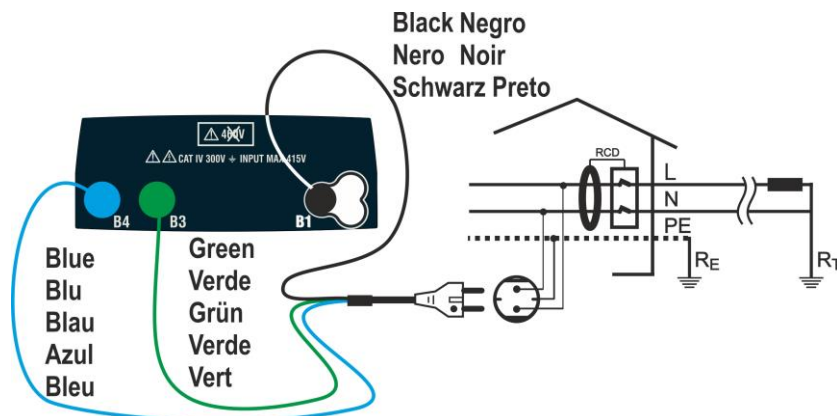
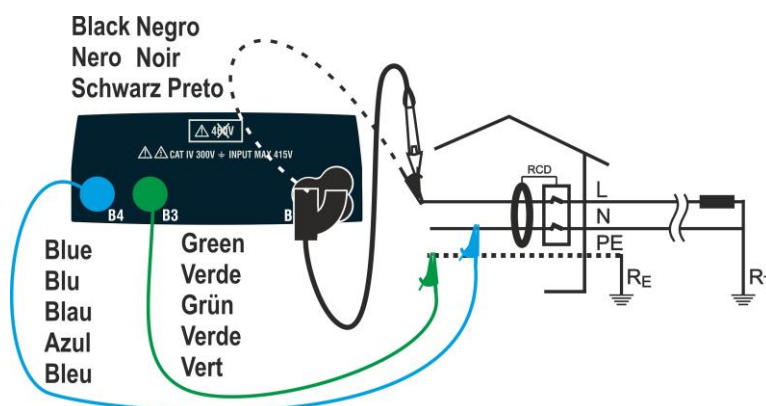
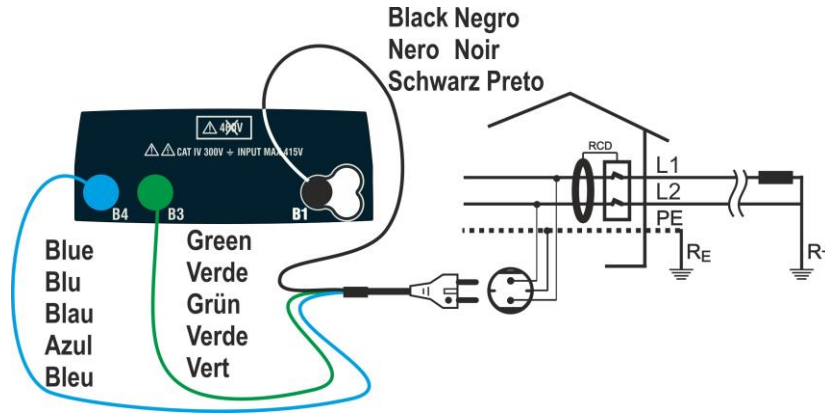
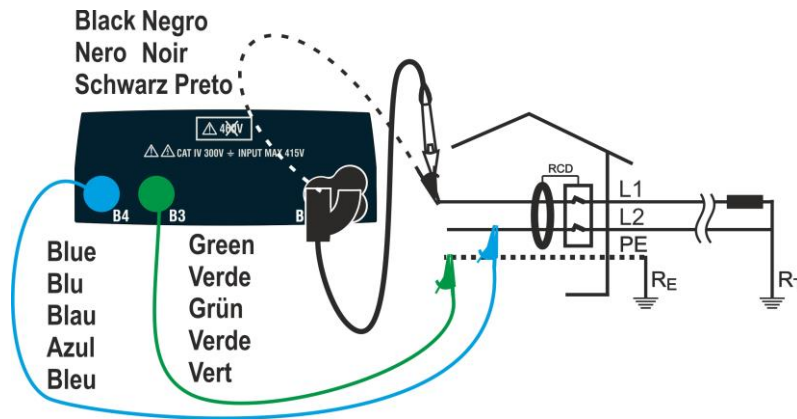

Fig. 4: Instrument connection in L-N-PE single phase system through mains plug
Fig. 5: Instrument connection in L-N-PE single phase system by means of single cables and remote switch probe
Fig. 6: Instrument connection in L-L-PE split phase system through mains plug
Fig. 7: Instrument connection in L-L-PE split phase system by means of single cables and remote switch probe
3. Insert the green, blue and black connectors of the three-pin plug cable into the corresponding inputs B1, B3 and B4 of the instrument. As an alternative, use the single cables and apply the relevant alligator clips to the free ends of the cables. It is also possible to use the remote switch probe by inserting its multipolar connector into the input B1. Connect the plug, the alligator clips or the remote switch probe to the electrical mains according to Fig. 4, Fig. 5, Fig. 6 or Fig. 7